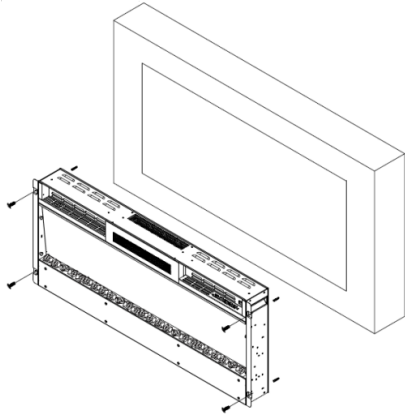

Fig.2
- For optimum viewing, mark the top four screws ( fixing positions on the wall in accordance with the recommended fixing dimension; See Fig.2
- Remove four silver screws from the sides of the heater, two screws on each side. Remove two screws from the front of the heater. Remove the tempered glass by lifting it from the lugs on the sides. see Fig.2
- For optimum viewing, mark the left and right screws ( fixing positions on the wall in accordance with the appliance's holes; See Fig.2